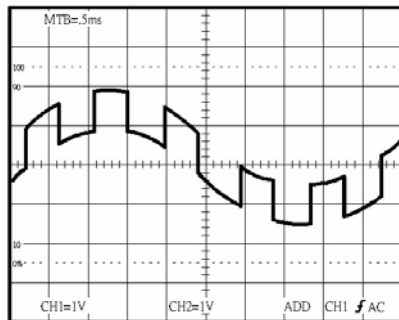

Figure 5-6 Typical ADD waveform
1. Set the ALT/CHOP/ADD button to ADD mode. The figure 5-6 below shows the sum of the waveforms from figure 5-5.